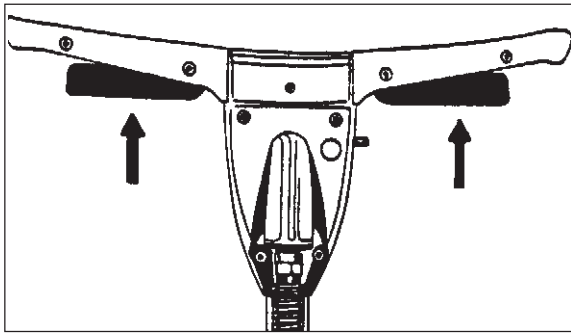

Figure 1
**The Start/Stop Levers.** See figure 1.
### PALANCAS ARRANQUE/PARADA (Véase fig.1)
### LEVIERS MARCHE/ARRET (Voir fig. 1)